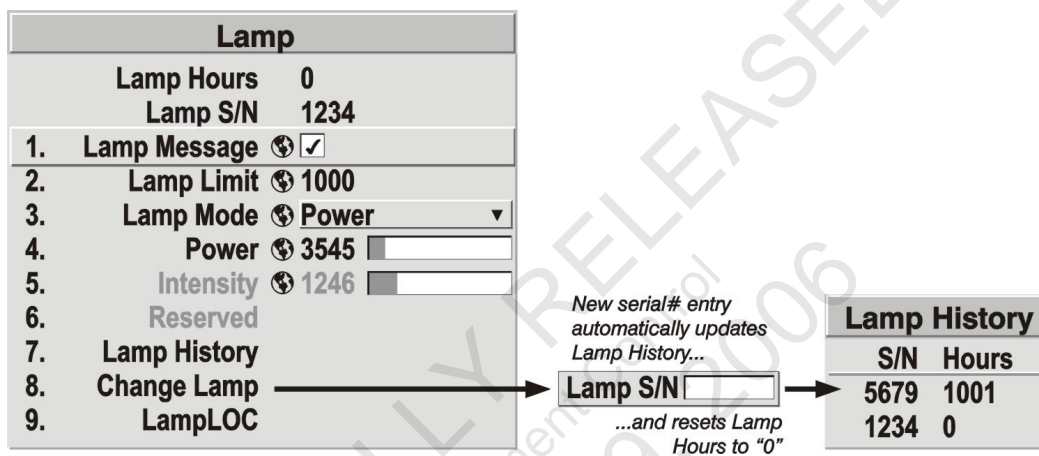

Figure 6. Lamp Menu
- (b) In the Lamp menu, select "Change Lamp". Refer to Figure 6, shown below.